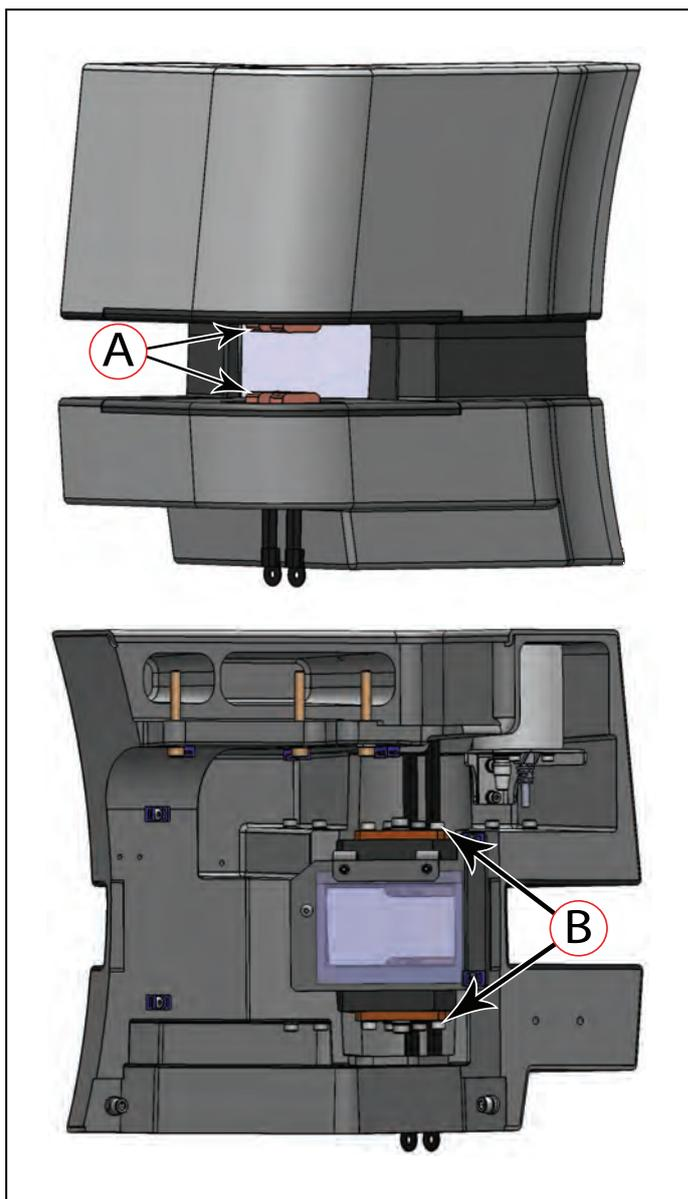

Figure 8-44. (A) Top and Bottom Charging Contacts, and (B) M5 Screws Attaching the Electrical Connections to the Corner Casting
As displayed in Figure 8-44, there are two sets of two charging contacts at the top and the bottom of the charging slot.
1. Unscrew the M5 screws ((B) in Figure 8-44. ) attaching the top and the bottom electrical connections to the corner casting. Use the 4 mm wrench to remove these screws.